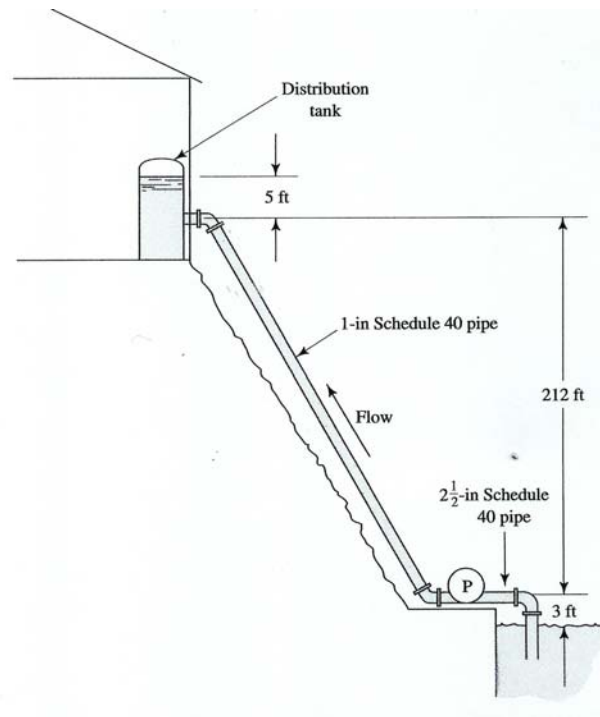

Figure 4: Pump/pipeline configuration
7. For the system shown in Figure 4, compute the power delivered by the pump to the water to pump $0.0031545 \text{ m}^3/\text{s}$ of water at 15° C to the tank. The air in the tank is at 276 kPa gauge pressure. Consider the friction loss in the 225-ft -long discharge pipe, but neglect other losses. Then, redesign the system by using a larger pipe size to reduce the energy loss and reduce the power required to no more than 3729 W . The roughness of the pipe is $\epsilon = 1.5 \times 10^{-4}$ and $1 \text{ in} = 0.0254 \text{ m}$.